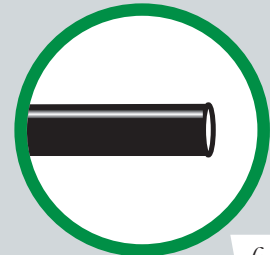

fig. 11
When cutting air lines, use a sharp knife or a hose cutter and make clean, square cuts (Fig. 11). Do not use scissors or wire cutters because these tools will deform the air line, causing it to leak around fittings. Do not cut the lines at an angle.
1. If there is a problem with the push-to-connect fitting, remove the air line as described above. Trim 1" off the end of the air line. Be sure the cut is clean and square (see Fig. 11).